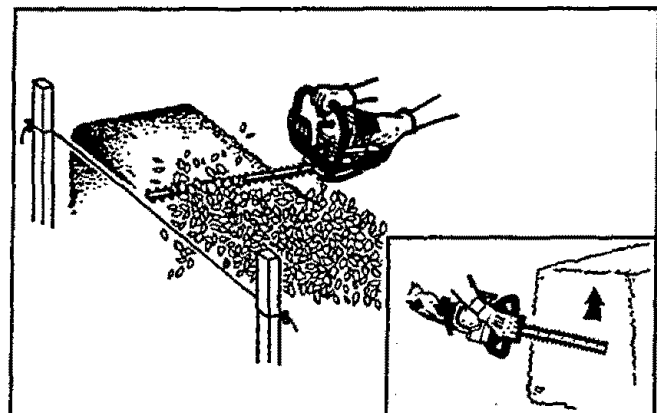

Figure 6
- **For precise, level cuts:** If a precisely level cut is desired, stretch a piece of string across the length of the hedge. Guide the cutting blades slowly across the top of the string. Figure 6.
- When trimming the sides of the hedge, begin at the bottom and cut upward, tapering the hedge inward at the top. Figure 6 (inset). Cutting in this method will leave the body of the hedge narrower at the top. This shape will expose more of the hedge, resulting in more uniform growth.